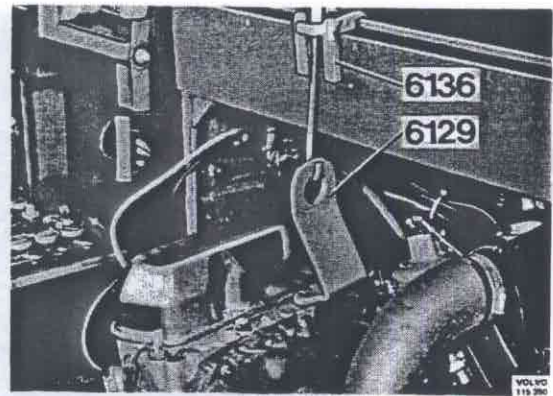
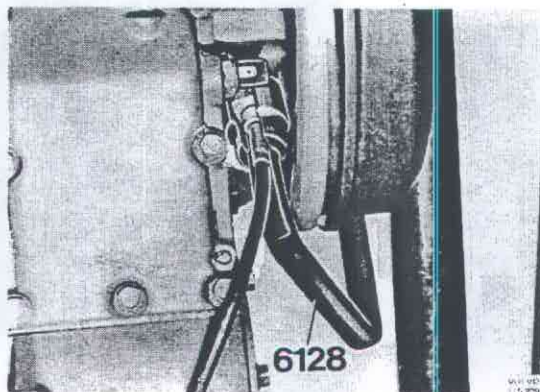

Fig. 43-43. Attaching hoist eyelet
Fig. 43-42. Removing speedometer wire
12. Unscrew the speedometer wire with 6128, Fig. 43-42. Fix the hoist hooks 6129 to the two rear cylinder head bolts, Fig. 43-43 and fit lifting tool 6136.